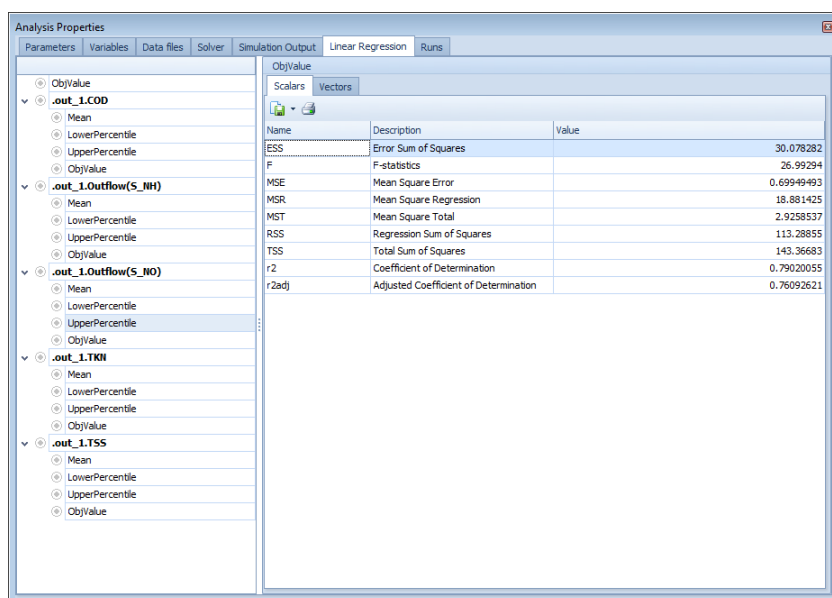
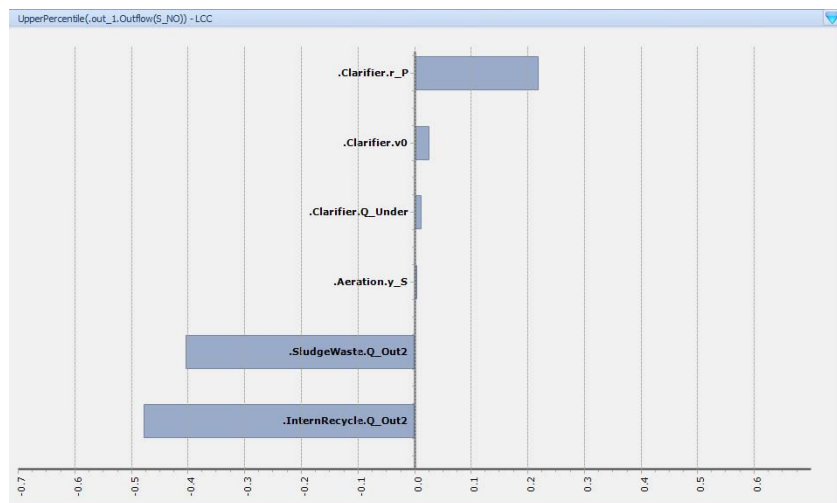

Figure 9.2 Example of Scalars values for one of the simulation objectives
Figure 9.6 Linear Correlation Coefficient (LCC) for the Upper Percentile of nitrate concentration in the effluent
- In the “Variables” tab page, we will be looking at the sensitivity of the COD, Nitrate (NO) and solids (TSS) concentration in the effluent (make sure the usual Time series Criteria are selected for these variables).
- The outputs of the GSA experiment are shown in Figure 9.2 to Figure 9.6:
- the aeration set-point and the internal recycle have the greatest impact on the concentration of nitrate in the effluent (Figure 9.6): the opposite sign indicates that the higher the internal recycle, the lower the nitrate concentration.